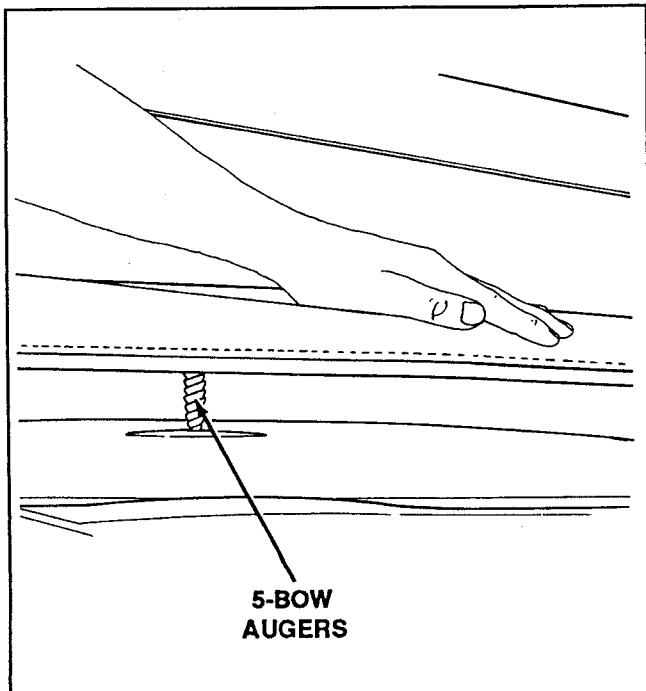

Figure 24. Electric Pull-Down Motor Actuation
9. For models with electric pull-down motors, engage the 5-bow augers to the stowage panel to allow the pull-down motors to operate (Fig. 24).